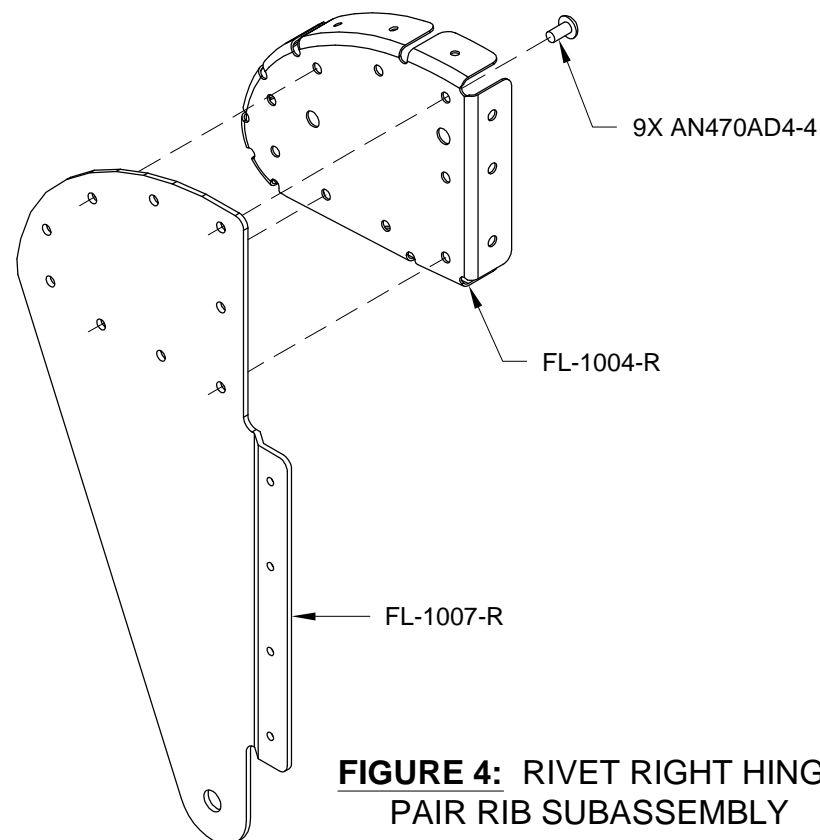

FIGURE 4: RIVET RIGHT HINGE PAIR RIB SUBASSEMBLY
Step 4: Rivet together the FL-1004-R Nose Rib and the FL-1007-R Hinge Bracket using the rivets called out in Figure 4.